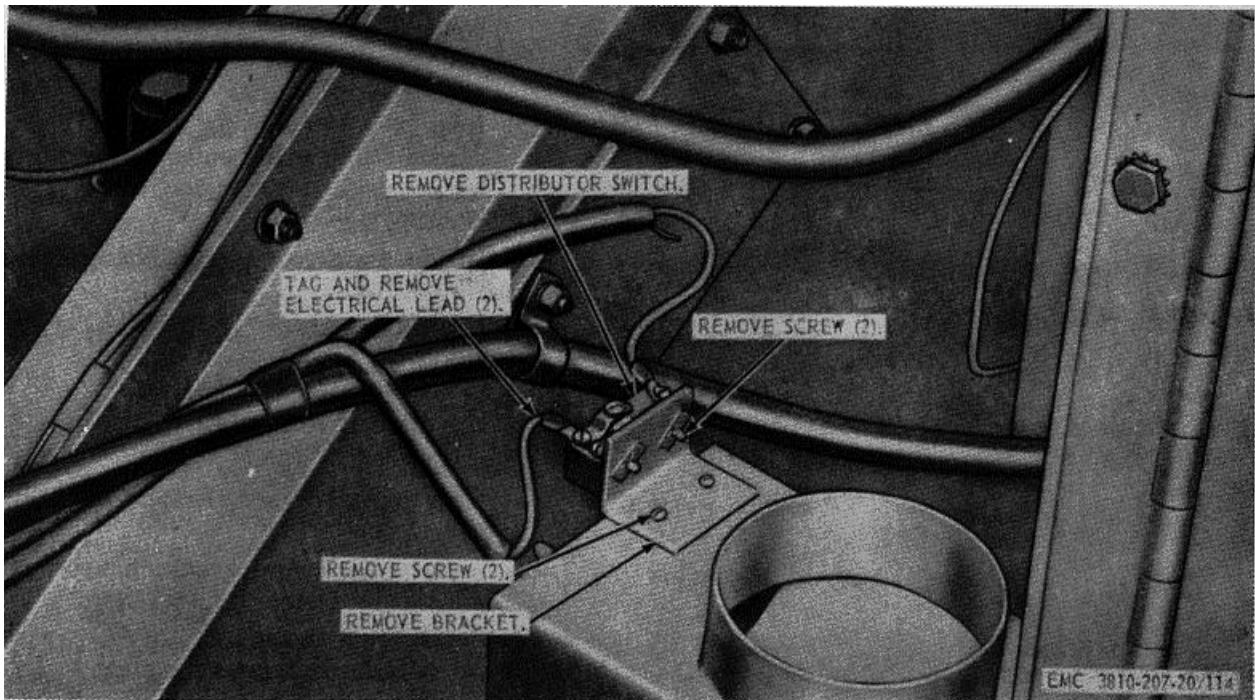

Figure 114. Distributor switch and bracket, removal and installation
a. Removal. Remove the distributor switch and bracket as instructed on figure 114.
- (1) Clean the distributor switch and bracket with a cloth dampened with an approved cleaning solvent and dry thoroughly.
- (2) Inspect the distributor switch for proper operation. Replace a defective distributor switch.
- (3) Inspect a mounting hardware for damage. Repair or replace damaged hardware as necessary.
c. Installation. Install the distributor switch and bracket as illustrated on figure 114.